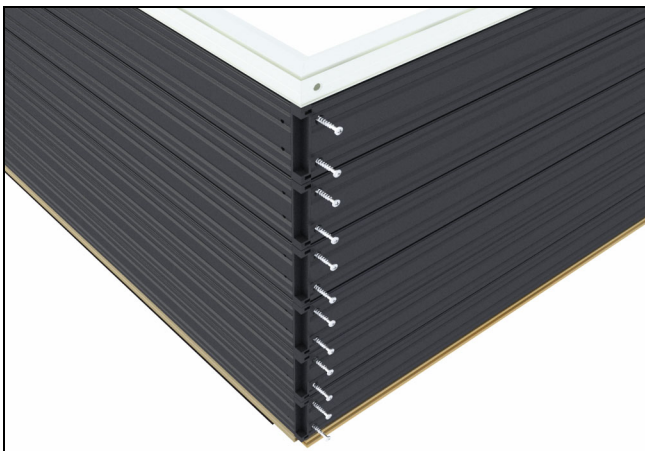

Figure 17
3. Fasten head jamb to side jamb using #8 x 1 1/4" pan head screws. See figure 17. *Note: If unit is prepped for motorization, use two #8 x 3/8" pan head screws on interior track.*